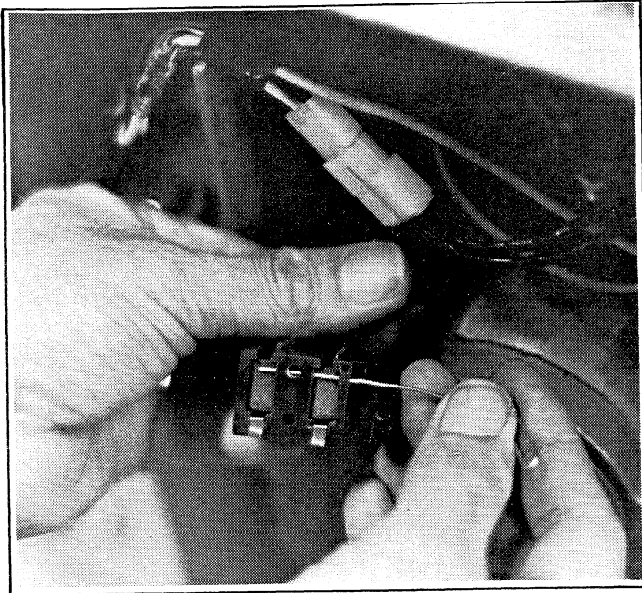

Figure 6-33. Brush Retaining Wire
6. Position the brush holder on the collector rings and install the two brush holder screws. To install the brush holder, it will be necessary to retain the brushes with a wire (Figure 6-33). Remove the wire when the brushes are installed.